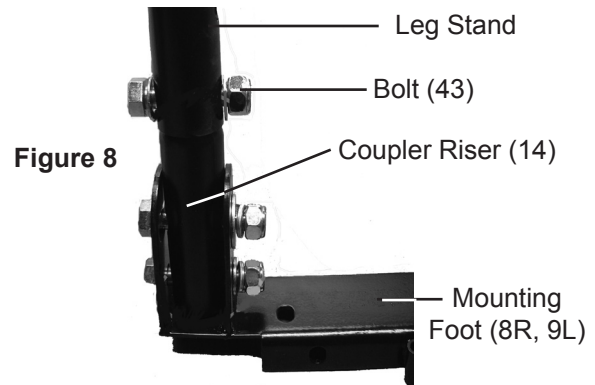

Figure 8
12. The Truck Rack comes with four Coupler Risers (14) that allow you to raise height of Rack another 6" if desired. Fasten Coupler Risers
to bottom of each Leg Stand using Bolts (27), Nuts (28), Spring Washers (29) and Flat Washers (30). See **Figure 8**, below.